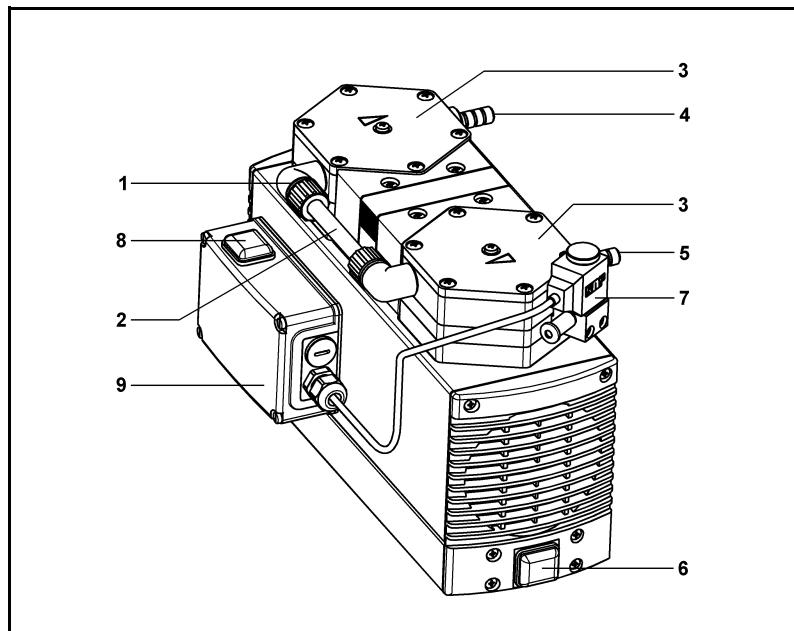
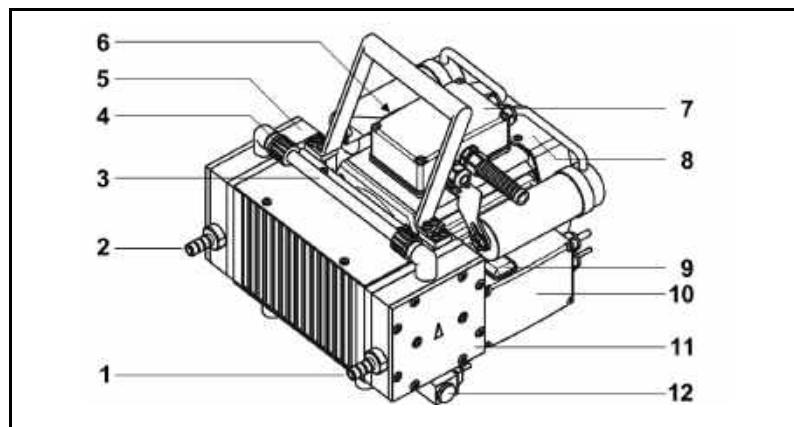

Fig. 2: Diaphragm pump (shown: pump N 840.3 FT.40.18, symbolic)
Fig. 3: Diaphragm pump N 860.3 FT.40.18
The venting valve (fig. 2/7 or fig. 3/12) at suction side pump head is opened by the control system, permitting air to enter the evacuated pump head. As a result of the increase in pressure in the pump head, the inlet valve of the first pump head closes by itself, thereby sealing off the connection to the source being evacuated.
- If the drying system is switched on: Switch the drying system off at the main switch of the control box (see fig. 2 or fig. 3).